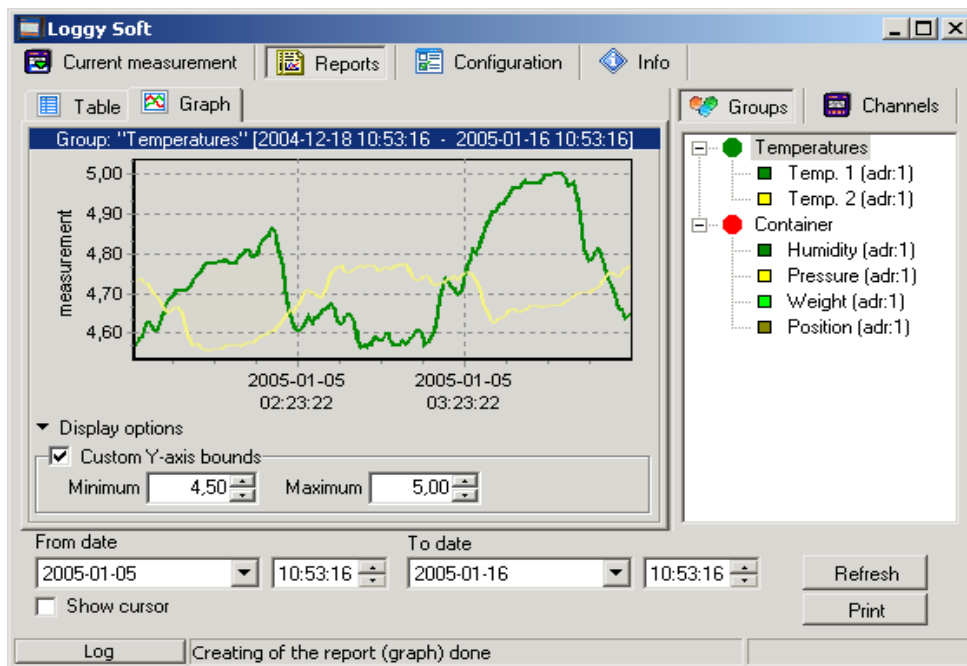

Fig. 3.6. Reports - Graph tab
Graph tab (**Fig. 3.6**) is used for viewing and printing of measurement results recorded by device (e.g. temperature, humidity) in the form of a graph. Measurements from a maximum of five recorded measurement channels can be viewed.
- **graphs area** - plots measured values (e.g. temperature, humidity) in function of time. Each channel is distinguished by a different colour (**Fig. 3.6**);
- click appropriate tab **Groups** or **Channels** (Fig. 3.6),